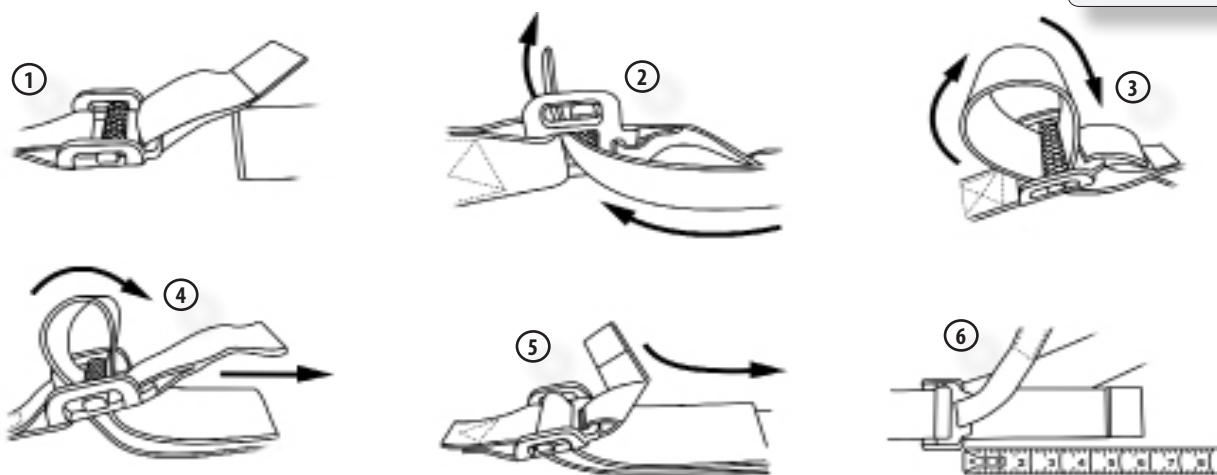

Figure 14
STEP 4: When ready to climb to your treestand installation height, wrap the long strap around the tree trunk, threading it into the buckle strap as shown in Figure 14.